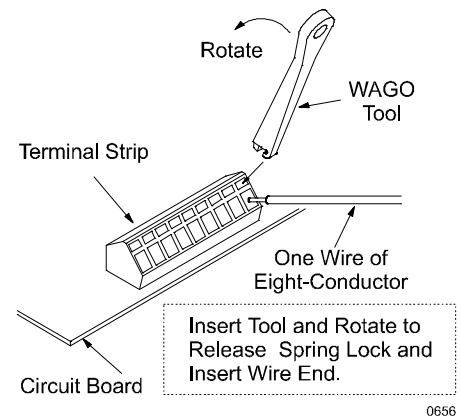

Figure 13 – Terminal Connection
- F) Use a WAGO tool to depress the spring lock for the individual wire connection to the terminal strip. Refer to Figure 13.